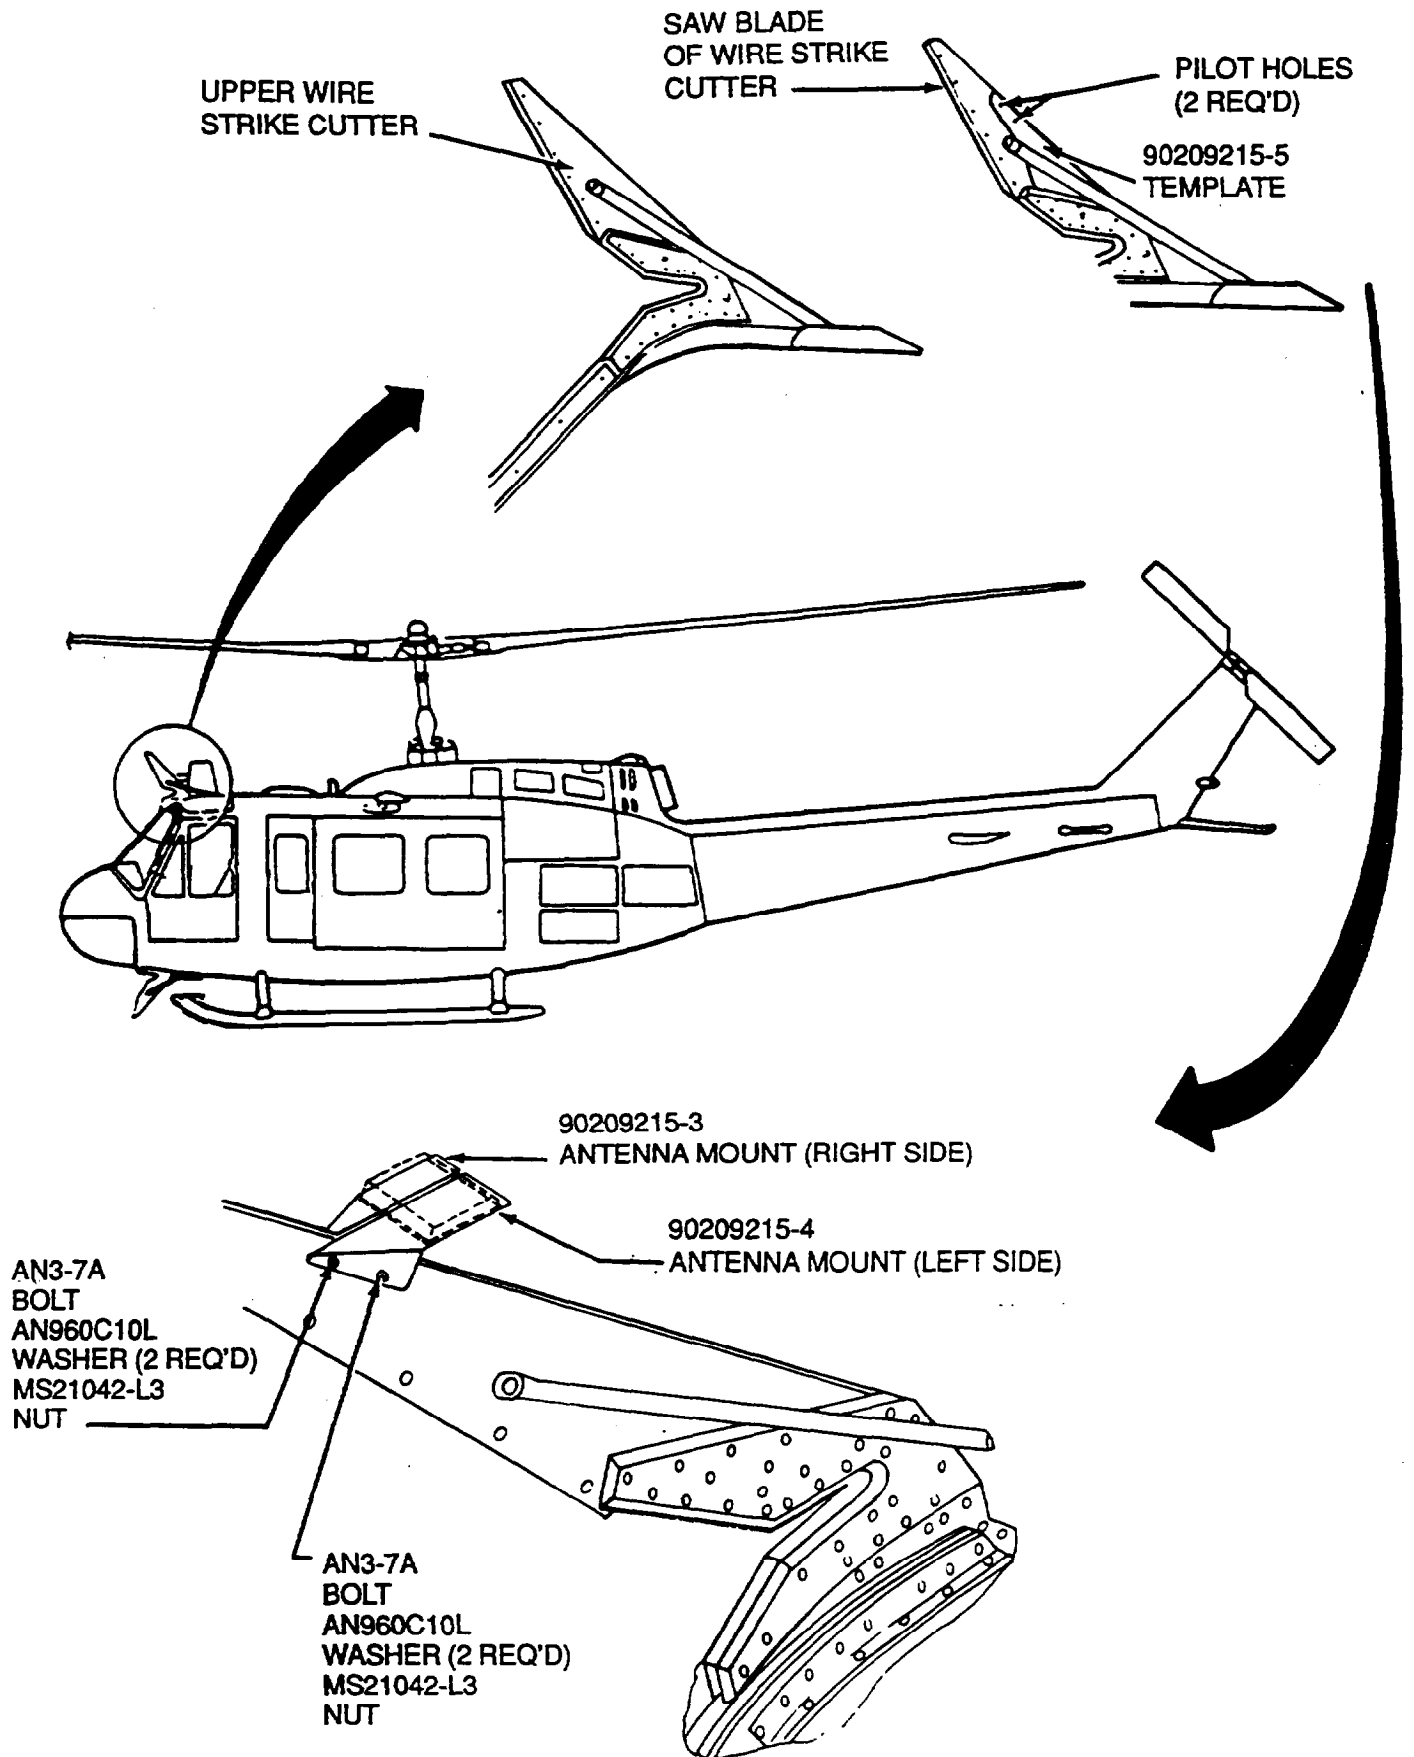

Figure 1. GPS Antenna Mount Installation.
(4) Disconnect power cable ground wire from grounding bus (TB29) in nose compartment
(5) Remove tywraps and remove GPS power cable from the aircraft.
(6) Remove clamps and tywraps from antenna cable on upper surface of cabin. Disconnect cable from RF bulkhead connector and remove cable.
(7) Remove tywraps from 90209182-502 lower antenna cable and remove cable from the aircraft.
(8) Remove RF bulkhead connector from hole in upper cabin structure.
(9) Patch/repair hole in upper cabin structure in accordance with TM 1-1500-204-23-10.
i. Remove GPS Trimpack mount (P/N 90209215-1) and Trimpack sleeve assembly (P/N 90209178-501) from access panel on copilots pedestal, see Figure 1.
(1) Remove Trimpack sleeve Assembly from Trimpack mounting plate by removing the four screws.
(2) Remove access panel with Trimpack mounting plate from copilots pedestal.
(3) Remove Trimpack mounting plate from access panel by removing four screws, washers and nuts.
(4) Remove grommet from antenna access hole in access panel.
(5) Patch/repair holes in access panel in accordance with TM 1-1500-204-23-10.
(6) Reinstall access panel on copilots pedestal.